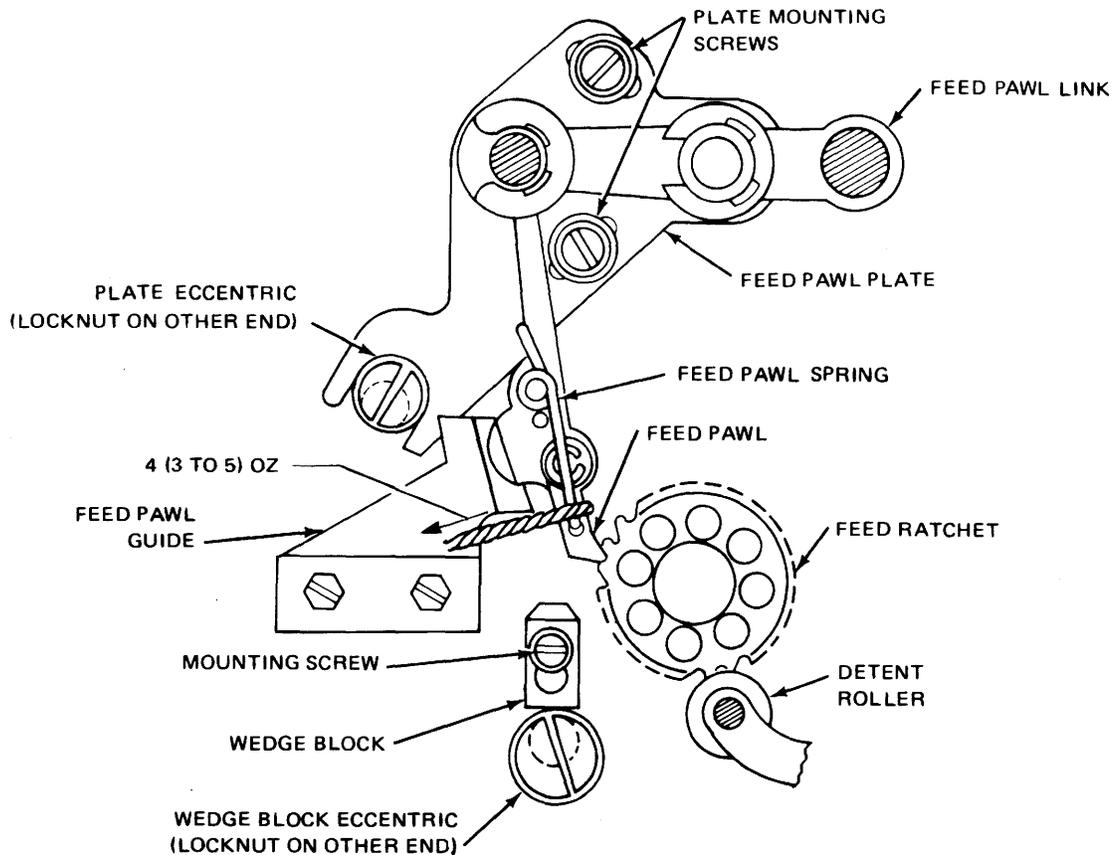

Figure 6-31. Feed Pawl Spring Adjustment.
5. Adjust feed pawl spring (see figure 6-31).
6. Adjust feed pawl link (see figure 6-31).